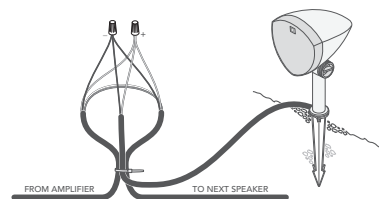

Figure 6
- Cut the correct two wires for the left or right speaker (see the tables below) and strip 3/4" of insulation on the exposed ends of the burial wires, then strip 3/4" insulation from the ends of the corresponding speaker's pigtail (see Figure 6).
- Create a loop of approximately 10", and use a wire tie to hold the wire loop and speaker pigtail in place to provide strain relief (see Figure 6).